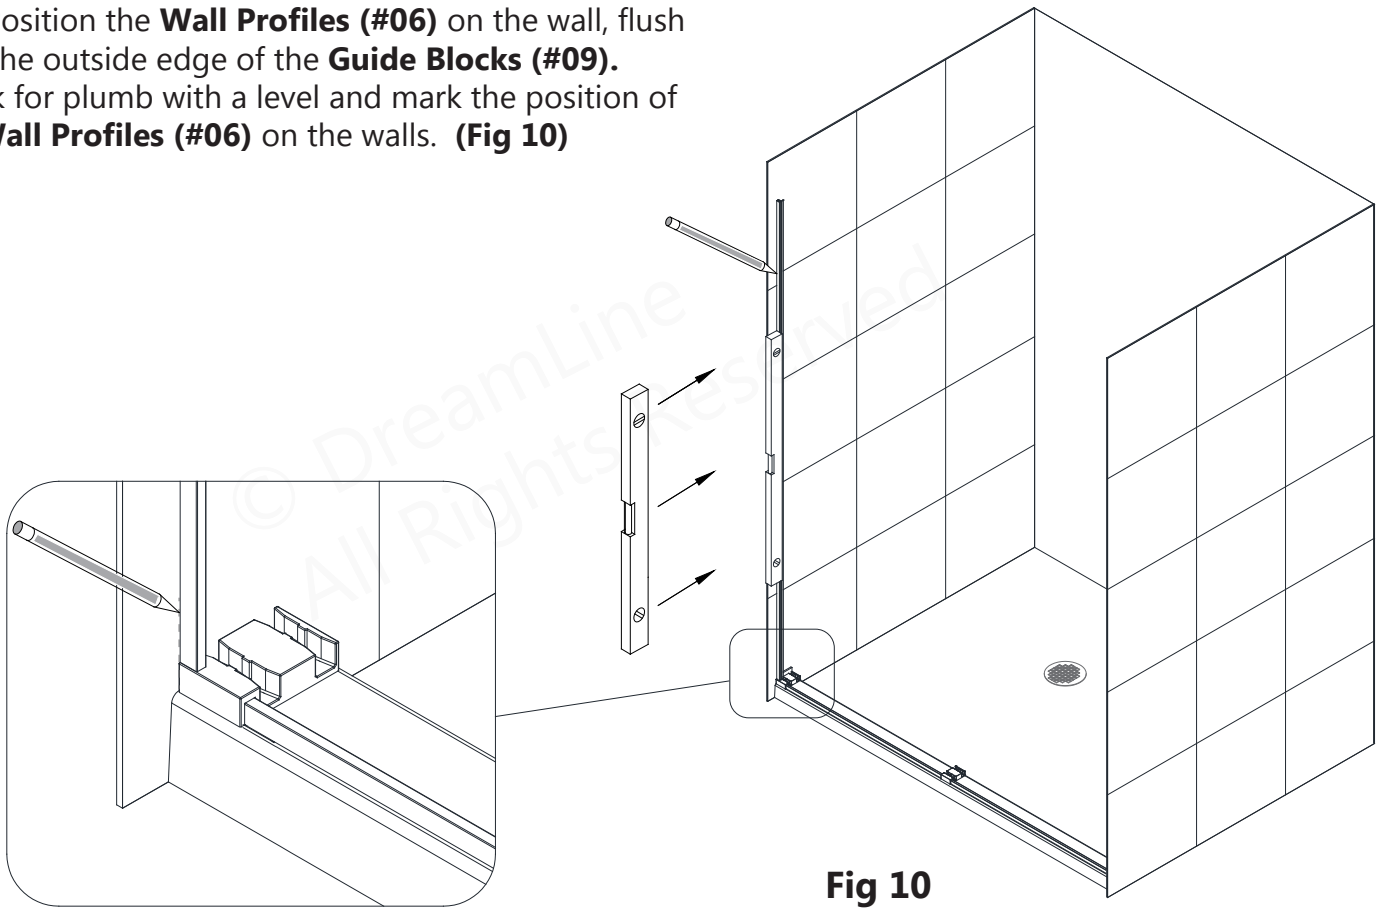

Fig 10
10. Position the **Wall Profiles (#06)** on the wall, flush with the outside edge of the **Guide Blocks (#09)**. Check for plumb with a level and mark the position of the **Wall Profiles (#06)** on the walls. **(Fig 10)**